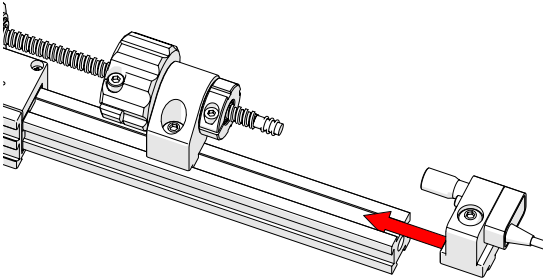
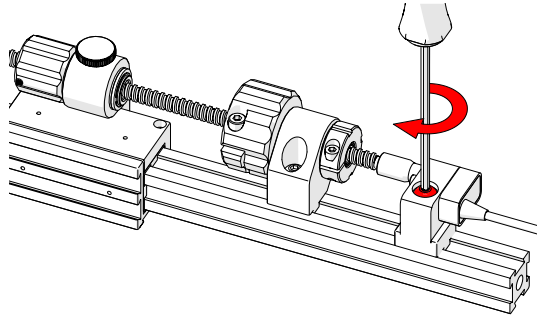

Fig. 229 - Loosen and slide post in place
Fig. 230 - Align and mount post
2. Slide the encoder's dovetail nut onto the frame bar (*Fig. 229*), and continue sliding the encoder towards the leadscrew until the leadscrew is pressed snugly into the encoder's coupling (*Fig. 230*).
3. Tighten the encoder's lock screw (*Fig. 230 - note red highlight*).